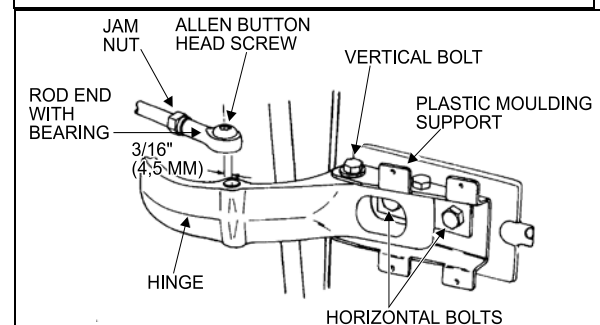

FIGURE 18: UPPER DOOR HINGE (COACH)
2. Remove the Allen button head screw and the washer retaining the rod end with bearing to the upper hinge. See Figure 18.